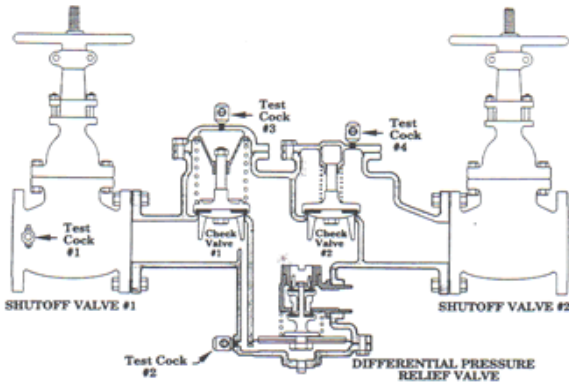

Figure 1. Reduced Pressure Principle Assembly
When there is a risk of a backflow situation, a Backflow Prevention (BFP) device can help. A BFP device is an apparatus that prevents the backflow of water from entering the potable water supply (see an example of a BFP device in Figure 1. on back page). Installation of BFP devices are required on all water service lines connected to industrial, commercial, institutional properties and multi-unit residential buildings (greater than four units). These BFP devices are installed to reduce the risk of potential contaminants entering the public water distribution system through backflow from the customer's premises, which may occur due to either backsiphonage or backpressure as explained above.
- where there may be a risk of contamination to the potable water system, Halifax Water may require the customer, at their own expense, to install on the customer's water service connection, one or more backflow prevention (BFP) devices of a type that is approved by Halifax Water (see example in Figure 1.);